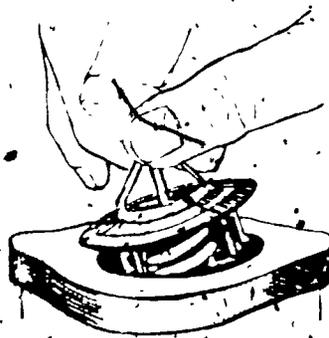

FIGURE 2
- I Place thermostat into thermostat opening. (Figure 2)